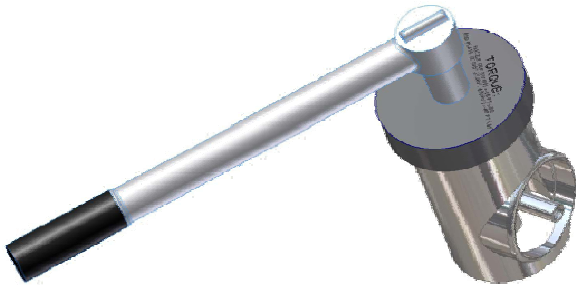
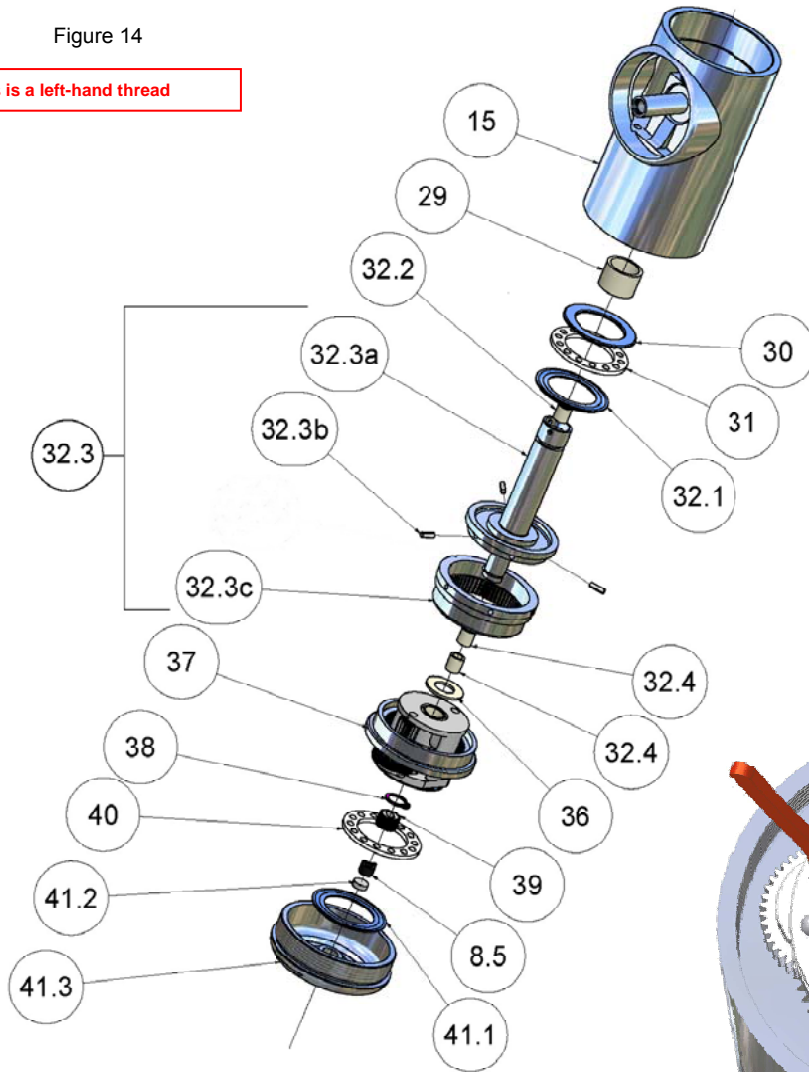

Figure 14
Figure 15
6. Using a punch (see Figure 14) remove position 12.5 by tapping position 12.5 with the punch and hammer driving inward.
1. Reverse process as stated above with the additional observance of using a torque wrench as shown Figure 14 to attach position 41.3 to position 15.
8. Remove position 37.1 from position 37.2 using tool in Figure 14.
- a. If foreign matter has entered into this area; position 37; to perform an inspection see Figure 14 and Figure 15 for disassembly instructions.
- a. After items 1-6 above have been checked; it may be necessary to replace parts due to normal wear associated with your type of operation. One of the best ways to determine the need to replace parts is a visual inspection of the primary wear parts as listed in the reference list of parts on page 29. Additionally, the working mechanism of the machine can be checked by rotating the impeller; position 8.1. By rotating this position, the turbine shaft and various gearing within the tank cleaning machine is engaged. Rotation should be smooth and consistent. If that is not the case then parts replacement is most probably required.